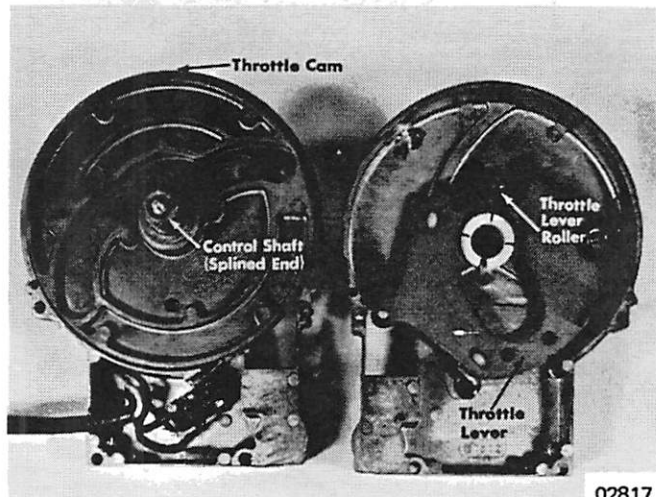

Figure 6. Control Housing Separated
2. Separate control housing halves. (Figure 6)
3. Remove throttle and shift cams from starboard housing by grasping splined end of control shaft and lifting straight up. (Figure 6)